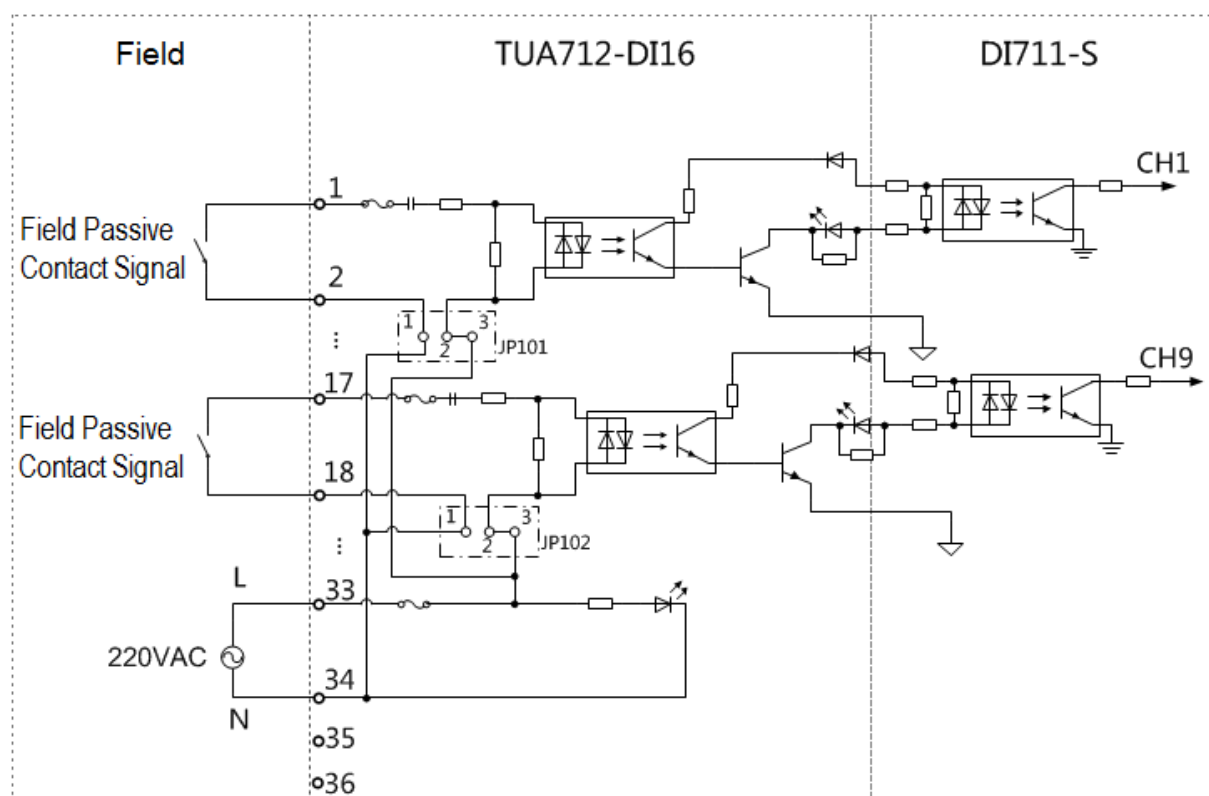

Figure 3-2 Passive contact signal wiring diagram (channels 1, 9 for example)
If the field signal source is a passive contact signal input, the configuration jumper should be set as jumper 2 and 3. The wiring principle is shown in Figure 3-2. The even-numbered terminals between 2 and 32 of each channel are connected to the inside of the terminal 34 and are common.
- Common N wiring: It is safe but its anti-interference is weak. And its use is recommended because the unavoidable signal interference can be improved by reducing the cable distributed capacitance and changing the wiring method according to the actual application. The wiring is shown in Figure 3-2.
- Common L wiring: It is highly resistant to interference but unsafe and the risk of electric shock may present. Therefore, its use is not recommended. The terminal 33 is connected to the N terminal and 34 to the L terminal when wiring, as shown in Figure 3-2.